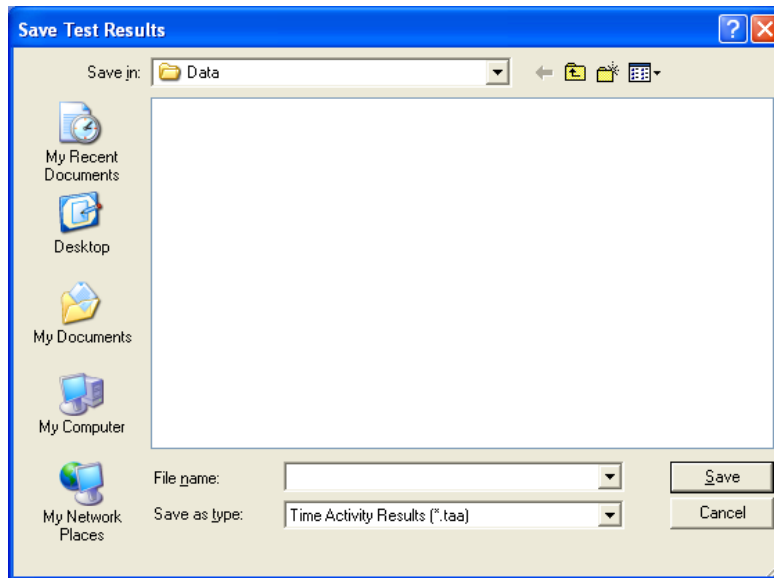

Figure 12-9
- If you click on **Save**, the screen appears as shown in Figure 12-9.